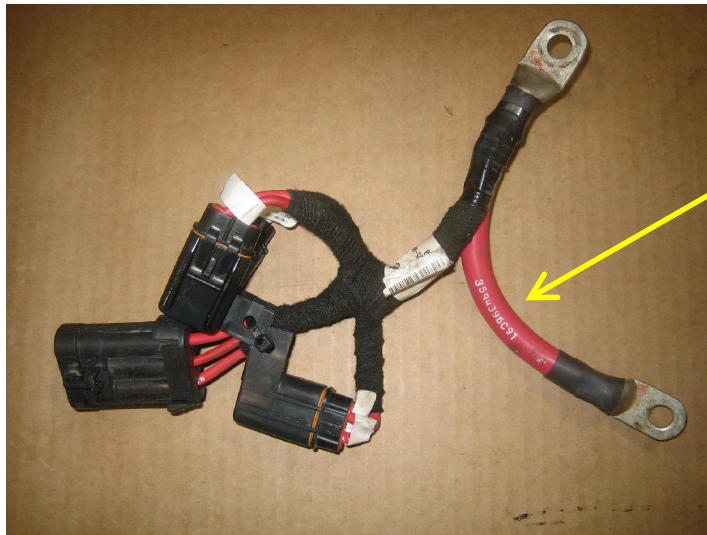

Figure 2.
- d. Locate the battery interconnect cable with integrated clean power circuits. See Figure 2.